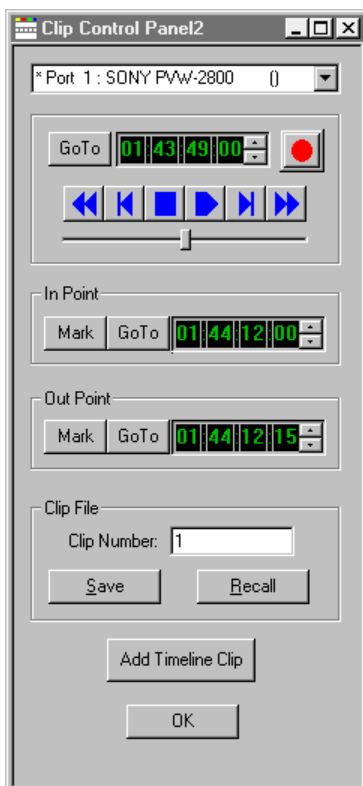

Figure 6-10. Clip Control Panel
- [] 2. Pull down Lyric's **Tools** menu and select **CLIP CONTROL PANEL**. The dialog box pictured in **Figure 6-10** appears.